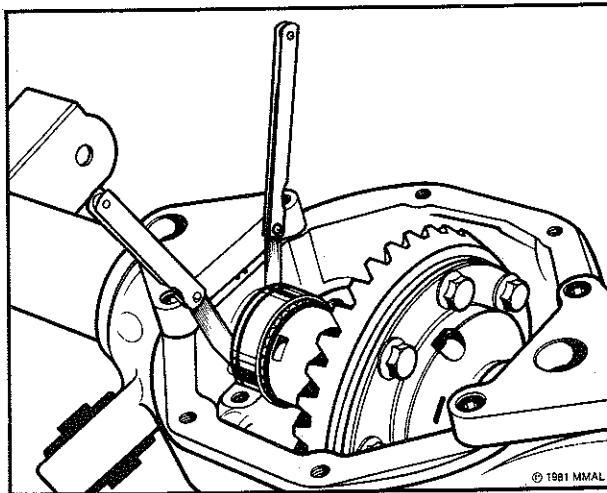

Fig. 26—Measuring side bearing spacers
(2) Push the assembly hard to one side of the carrier and with two feeler gauge sets, measure the gap between the spacer and the carrier at the opposite end, refer Fig. 26.
(3) Remove the assembly and measure the total spacer thickness.
(4) Initial spacer thickness is determined as follows:—